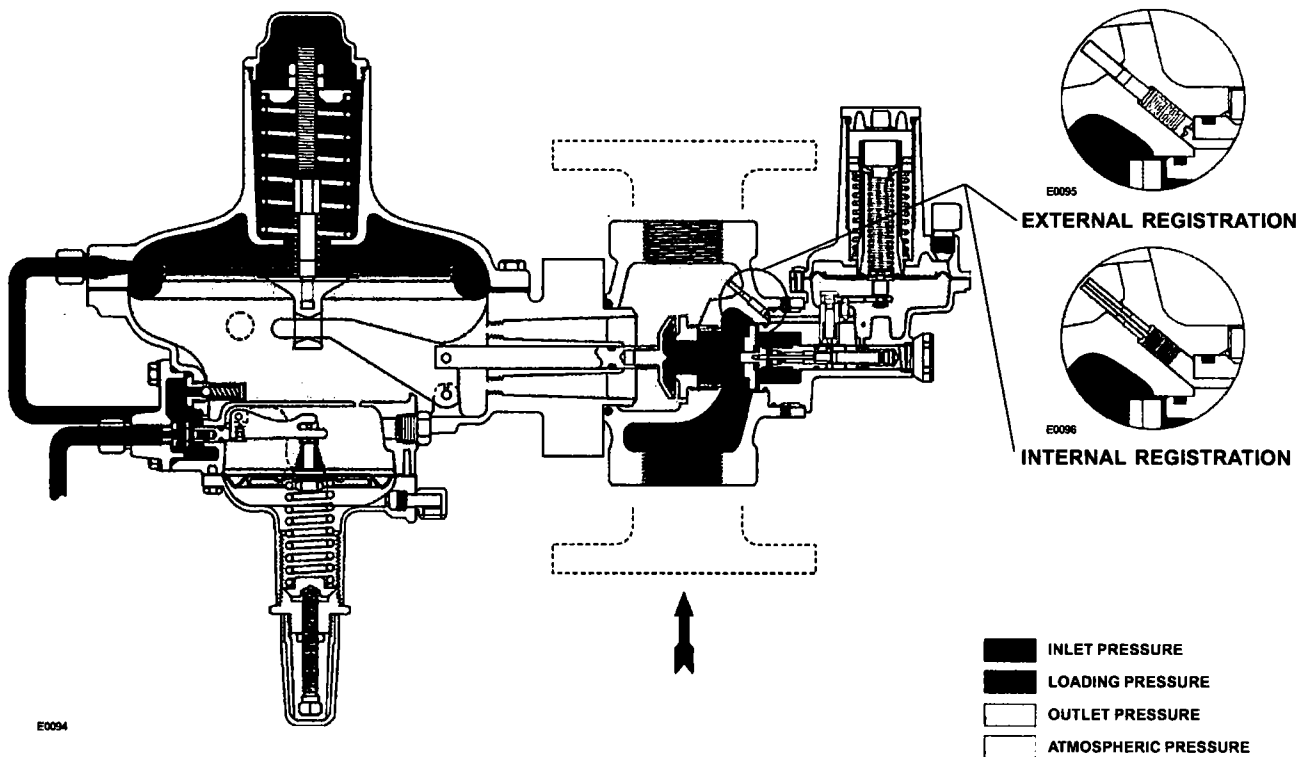

Figure 2. 299HS Operational Schematic
- Add the following to figure 2 on page 3.